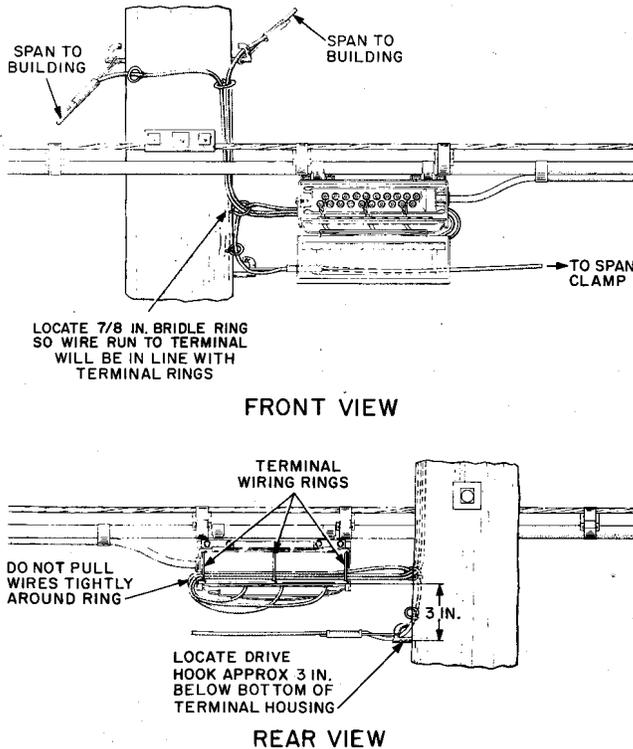

Fig. 8—Running Drop Wire To N-Type Cable Terminal From Pole
3.11 Refer to Fig. 8, 9, and 10, for typical arrangements of drop wires at N-type terminals. Note that the arrangements of wires are similar at all strand-mounted cable terminals.